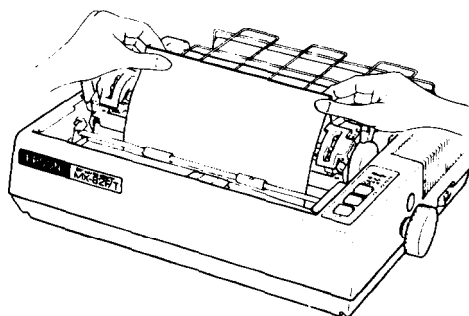

Fig. 41 Alignment of Side Edges
- a) If the cut paper sheet or form is long enough, unlock the release lever and align the side edges of the paper as shown in Fig. 41.